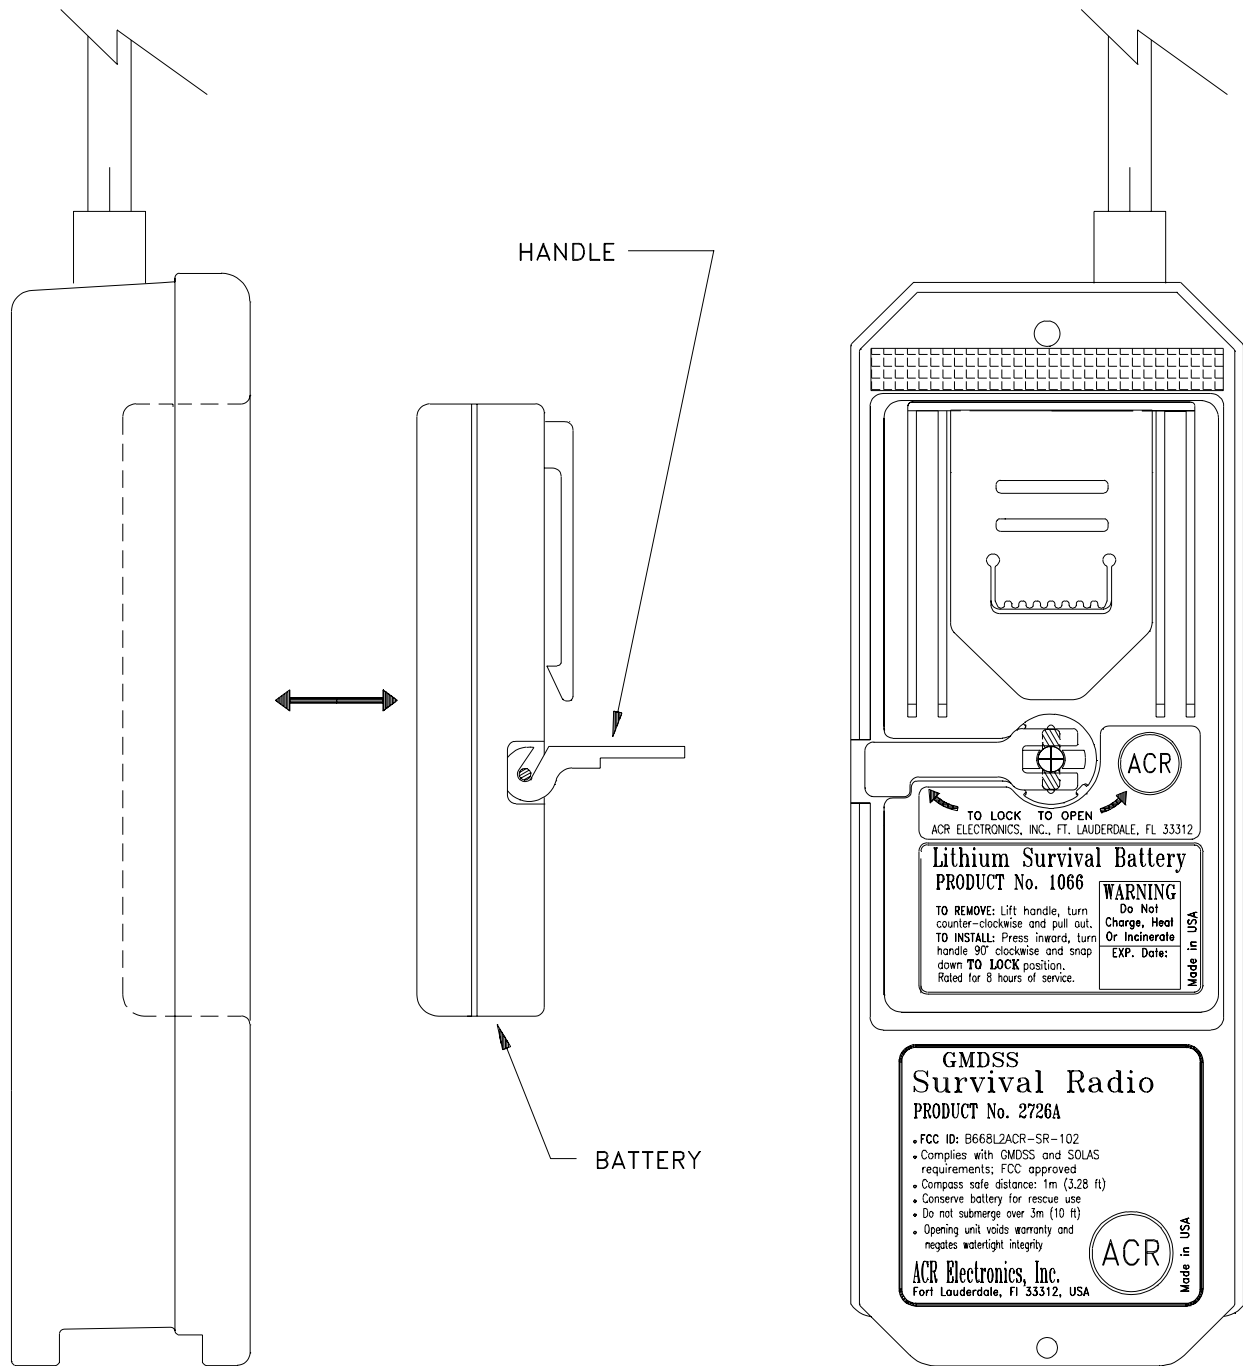

FIGURE 4: BATTERY REPLACEMENT
6.2 How to replace the battery pack: (Refer to Figure 4)